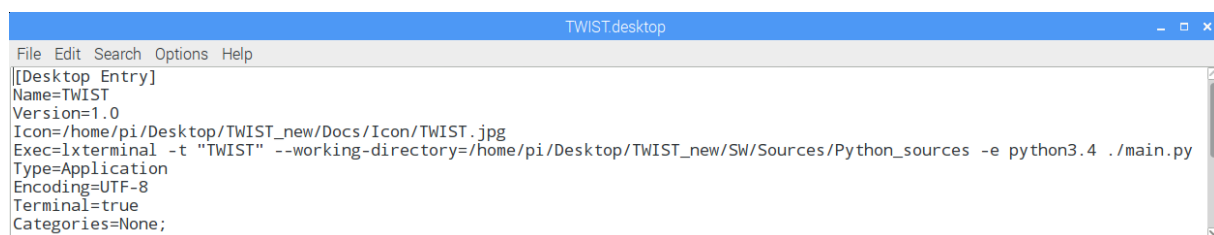

FIGURE 3:TEXT EDITOR OF TWIST ICON
12. Click on TWIST icon with mouse’s right button in “./TWIST/SW”, and select *Text-Editor* menu bar. Finally, insert in “Icon= ” and “--working-directory= ” fields, the new **ABSOLUTE PATH** of TWIST icon picture and of main.py, respectively (see Figure 3);